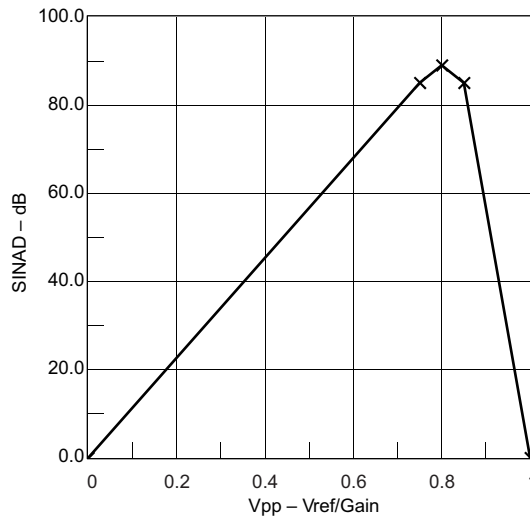

Figure 5-18. SINAD vs V_{PP}
(1) The following voltages were applied to the SD24_B inputs: $V_{I,A+}(t) = 0\text{ V} + V_{PP} / 2 \times \sin(2\pi \times f_{IN} \times t)$ and $V_{I,A-}(t) = 0\text{ V} - V_{PP} / 2 \times \sin(2\pi \times f_{IN} \times t)$ resulting in a differential voltage of $V_{ID} = V_{I,A+}(t) - V_{I,A-}(t) = V_{PP} \times \sin(2\pi \times f_{IN} \times t)$ with V_{PP} being selected as the maximum value allowed for a given range (according to SD24_B recommended operating conditions) (also see Figure 5-18).